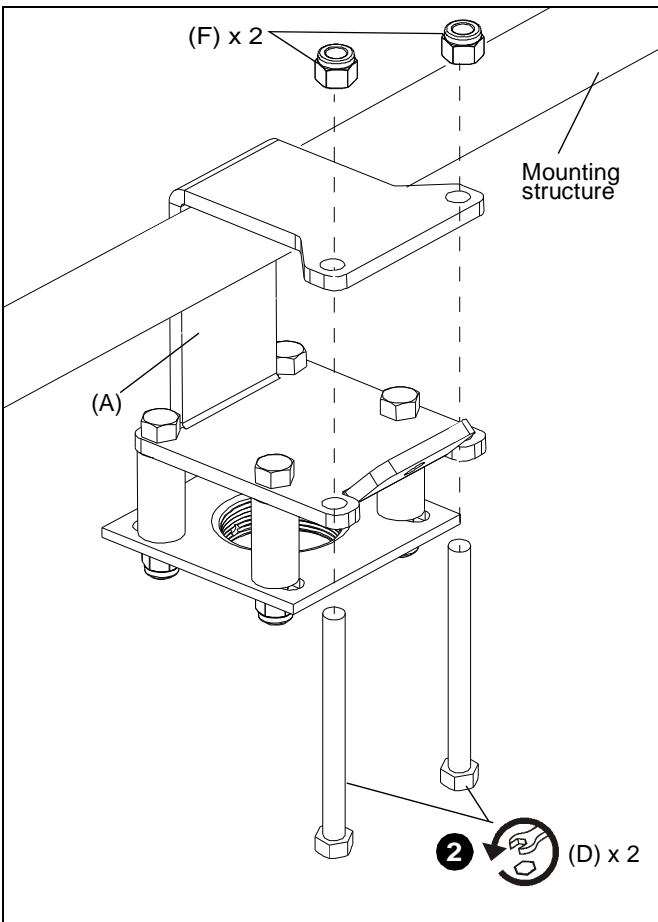

Figure 1
1. Place CMA362 assembly (A) on desired mounting structure. (See Figure 1)
2. Install and tighten two 3/8-16 x 5" hex head cap screws (D) and two 3/8" Nylock nuts (F) to fasten CMA362 to mounting structure. (See Figure 1)